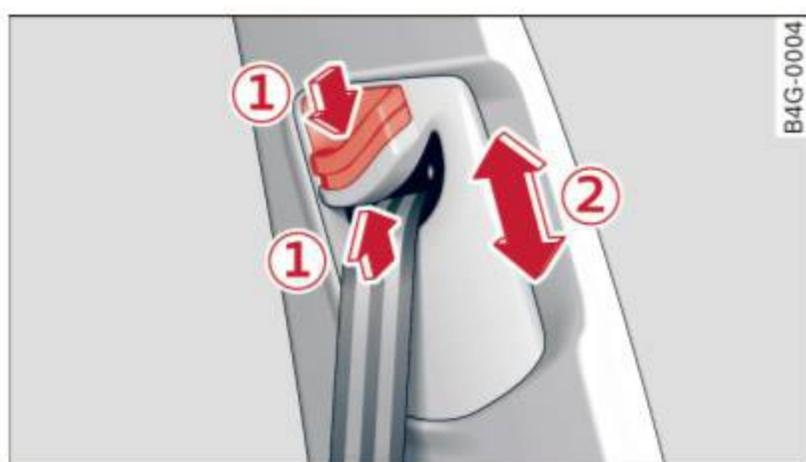

Fig. 152 Safety belt height adjustment for the front seats - loop-around fittings
- ▶ Push the loop-around fittings **up** ⇒ fig. 152 **②**, or
- ▶ squeeze together the **①** button, and push the loop-around fittings **down** **②**.